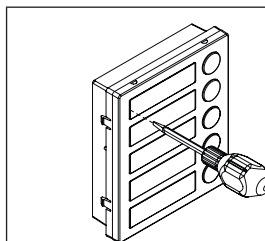

Fig. 8
- Insert the screwdriver (flat side) into the card-holder hole as shown in **Fig. 8**;